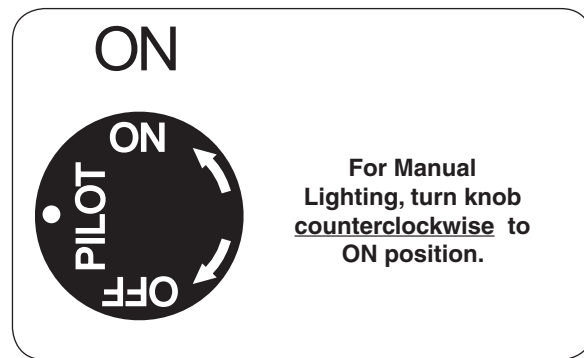

Fig. 13-3 Control knob detail (ON)
2. Turn the gas control knob counterclockwise to **ON** (Fig. 13-3) to ignite the burner. The valve will open and the burner will light.